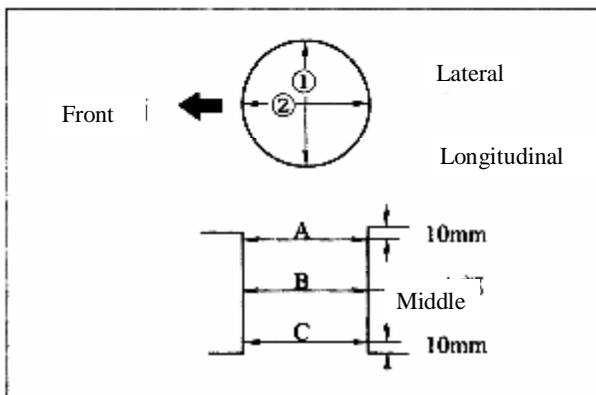

Figure 3-25 Measurement of Cylinder Bore Diameter
**3.2.6** Measure inner diameter of each cylinder bore. Measuring position and direction see Figure 3-25. Nominal diameter of cylinder bore is  $\Phi 91.00\sim\Phi 91.03\text{mm}$ . See Table 3-1 for diameters of cylinder bore groups..